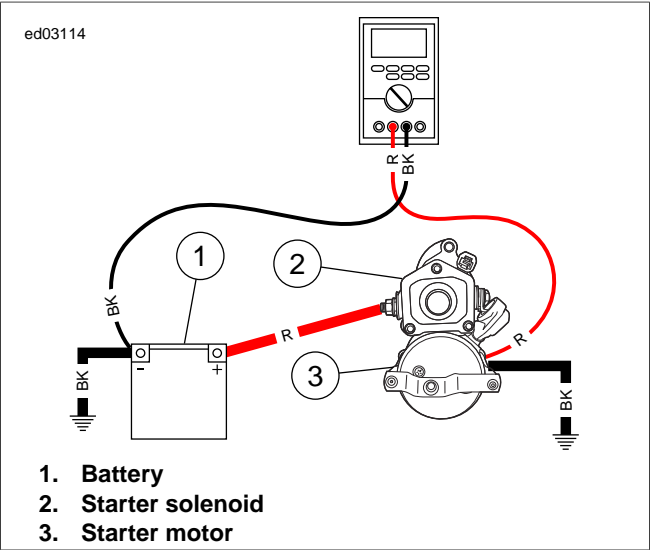

Figure 1-30. Starter Ground Circuit
4. See Figure 1-30. Finally move the black meter lead to the negative battery post and the red meter lead to the starter case. Crank the starter.